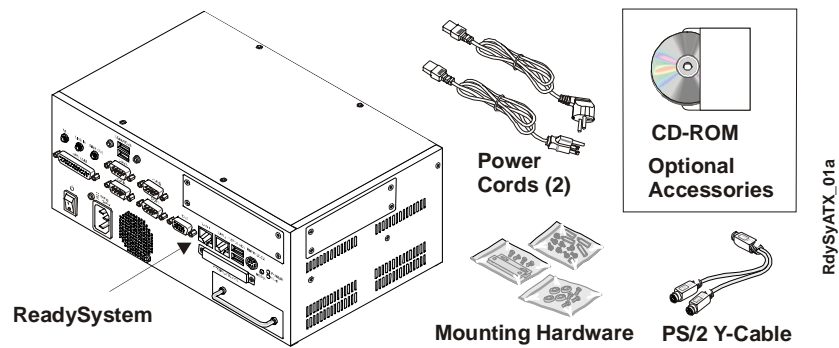

Figure 1-1. ReadySystem ATX Accessories
The Contents List identifies items in the shipping container for the ReadySystem ATX QuickStart Kit. The production quantities of the ReadySystem ATX, except for the first of multiple boxes, will not contain the optional items listed for the QuickStart kit, but all boxes will have the standard items such as the mounting hardware, PS/2 Y-cable, and power cords. See Figure 1-1.
1) Open shipping box	<ul style="list-style-type: none"> • Locate the ReadySystem ATX Contents List. See Figure 1-1. • Unpack the contents of the shipping box.